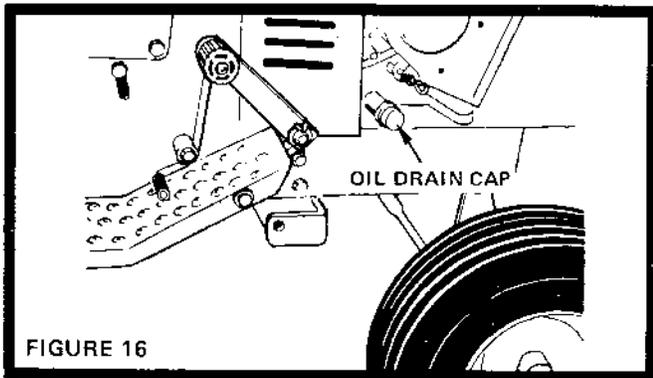

FIGURE 16
- Drain Oil with Engine warm. Unscrew Oil Drain Cap (Fig. 16) and catch Oil in a suitable container. Replace Cap.